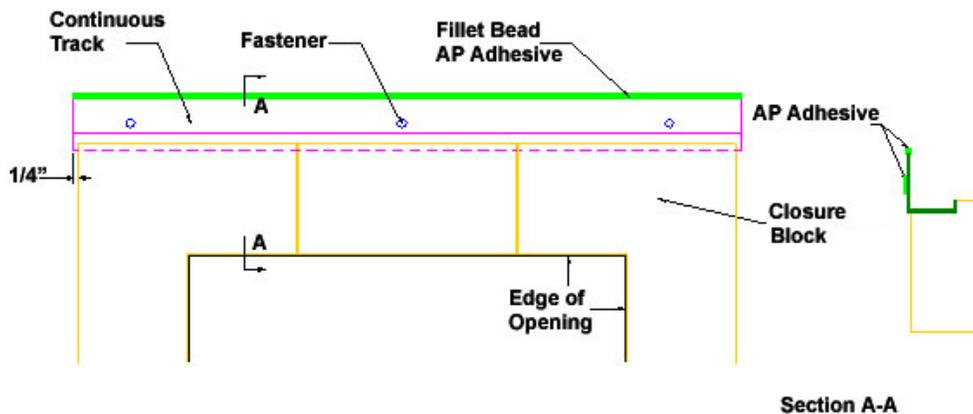

Fig. 25
- i. Cut a piece of Dryvit Track to length so that it extends 1/4 in (6.4 mm) beyond the edge of the Closure Blocks as shown in Figure 25.